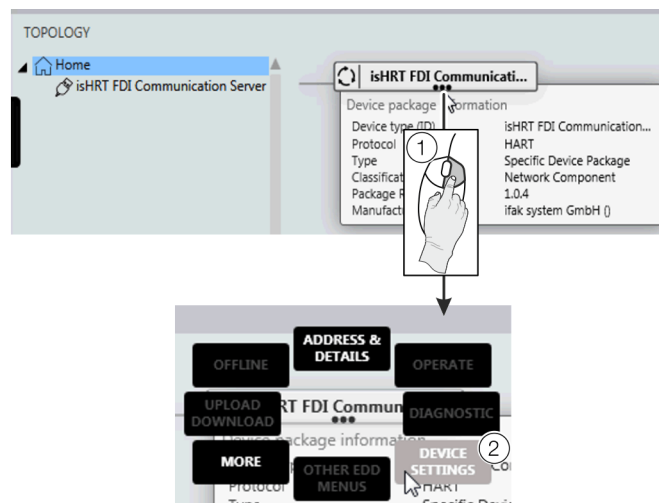

Figure 83: Select FIM – 'Device Settings'
6. Right-click ① as shown in **Figure 83**.
7. Select 'DEVICE SETTINGS' ② as shown in **Figure 83**.